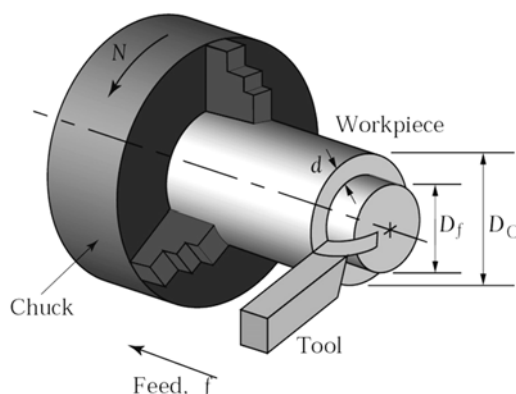

Figure Q1B: Schematics of turning process
B. A round bar of carbon steel is to be machined using CNC lathe (Figure Q1B). Its length is 300 mm and initial diameter is 105 mm. Its diameter after turning is 100 mm. The spindle speed is 400 rpm and the feed is set at 0.6 mm/rev. Specific energy of the carbon steel is  $3.0 \text{ W.s/mm}^3$ . Calculate: